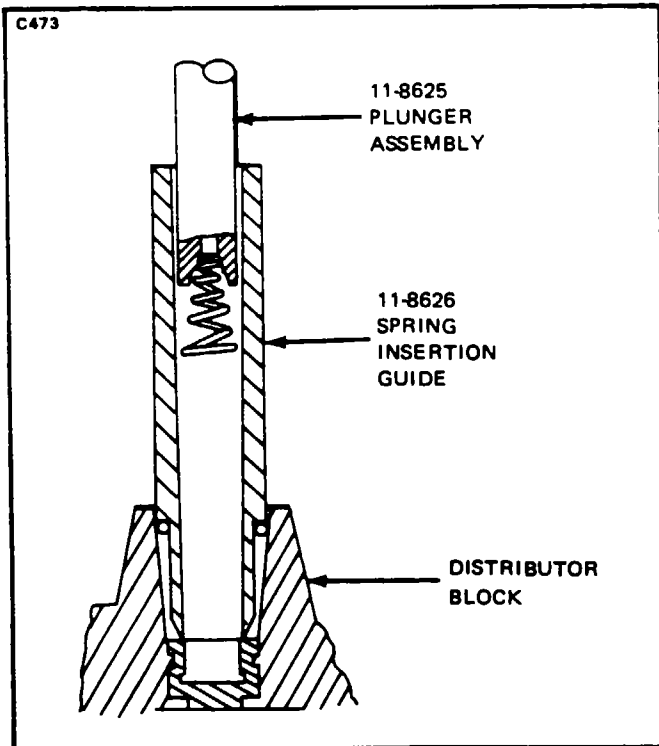

Figure 8-31. Position of 11-8627 Kit and Contact Spring at Start of Installation
- f. When lead being replaced is of the elbow type, salvage the used elbow and compression springs for installation on replacement lead. Install these and new sleeve and contact spring, (Refer to Figures 8-31 and 8-32) furnished with replacement lead per instructions given in steps a thru d.